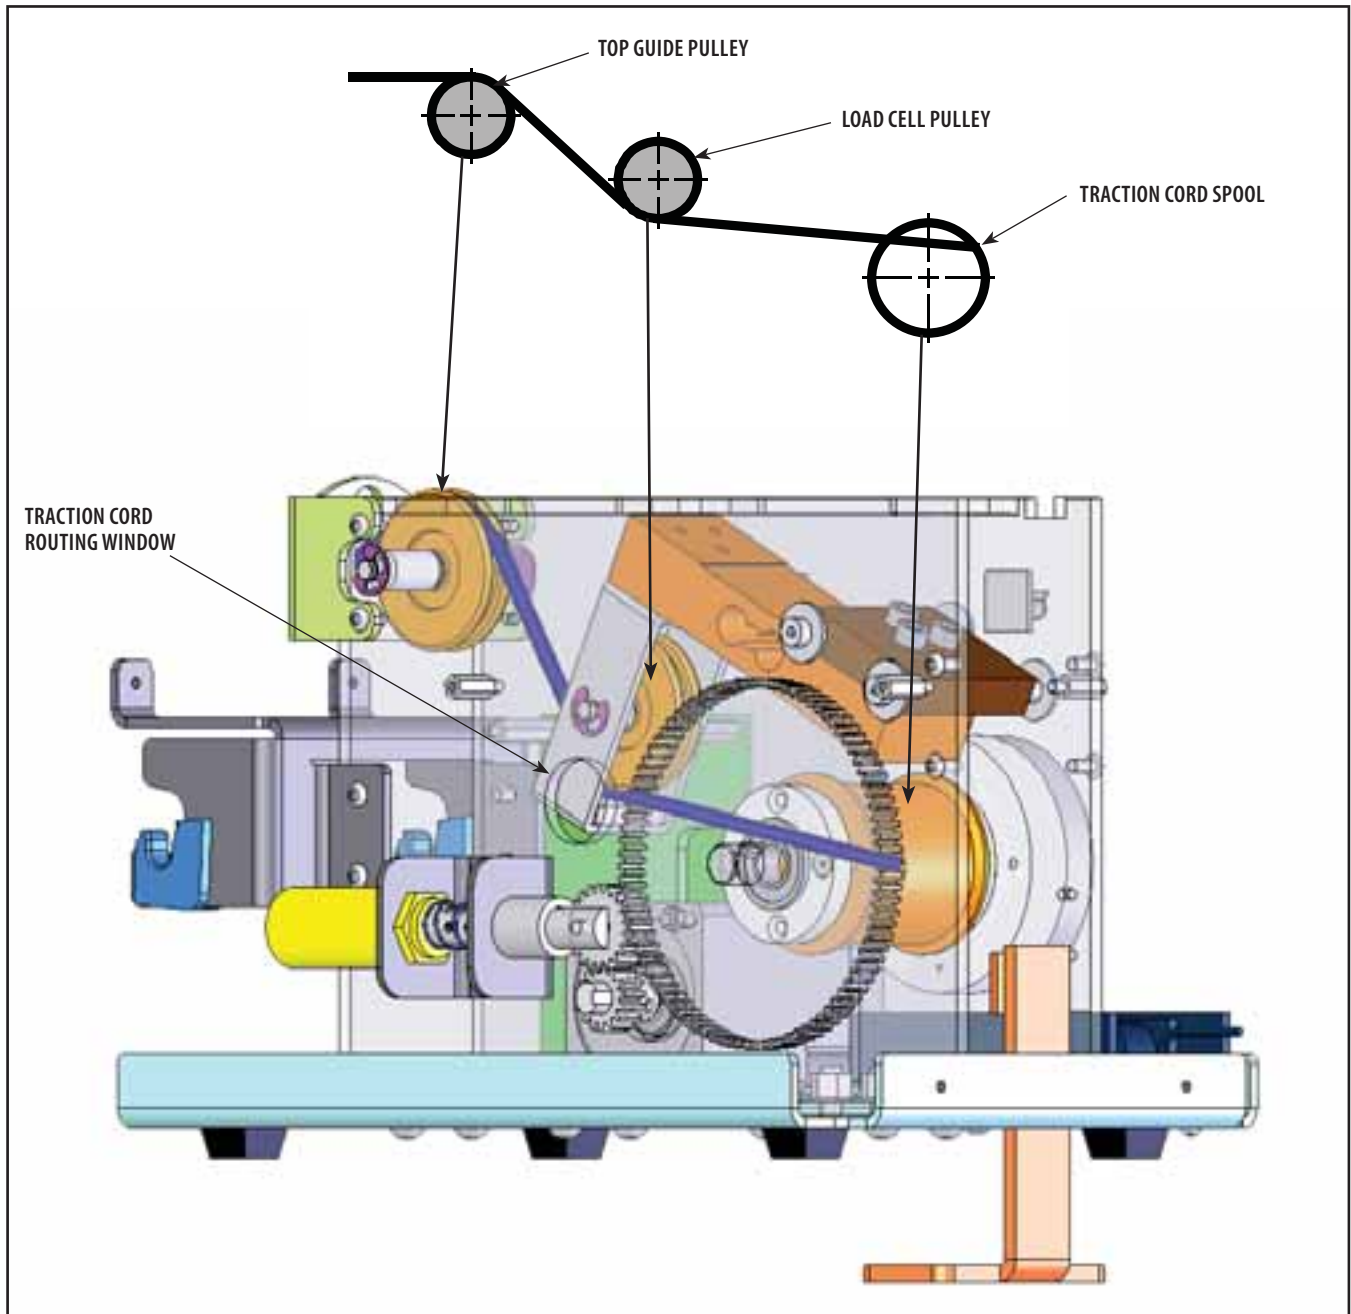

FIGURE 6.32
1. Route Traction Cord through the Traction Cord Spool, Load Cell Pulley, and Top Guide Pulley. See Figure 6.32